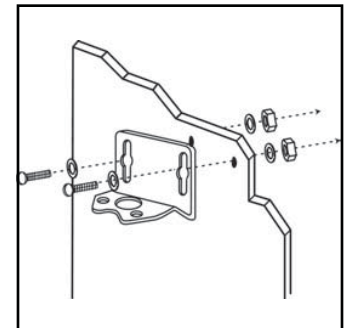

Figure 2
2. For installation using machine screws and nuts, remove drawer from adjacent cabinet and drill two 7/32" diameter holes through cabinet wall. Fasten filter bracket to wall with screws, nuts and washers. Use washers on both sides of the wall. Mounting to the cabinet side wall gives the filter good, rigid support. (Figure 2) For installation using sheet metal screws, simply prick punch at marked location (Step 1), position bracket in place, and install screws with screwdriver.